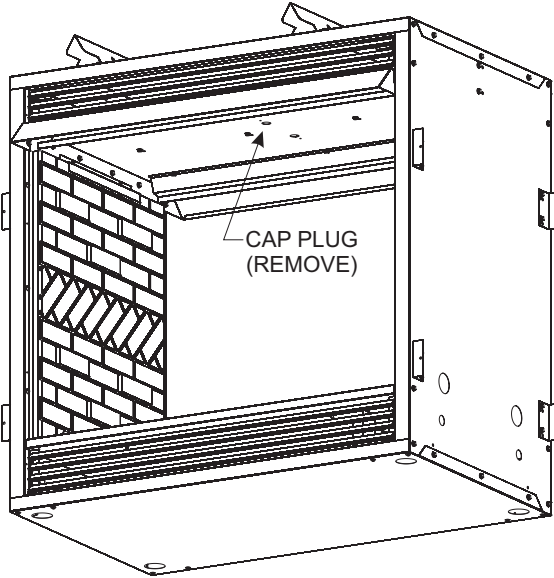

Figure 3
- In the inside top of the firebox there will be (2) round cap plugs near the center. Remove the one closest to front of firebox with a standard screwdriver. See **Figure 3**. This provides an access hole to run the accent light wiring up, through, and over the top of the firebox.